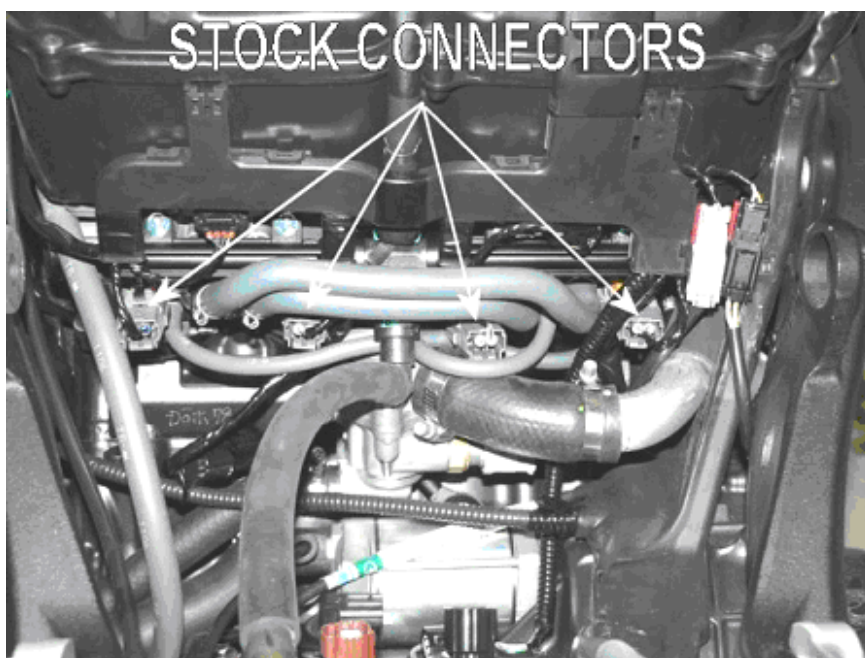

Fig.1
4. Locate and disconnect the four two way connectors of the lower injectors (Fig.1).